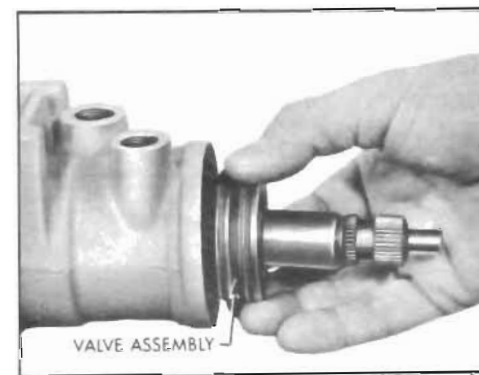
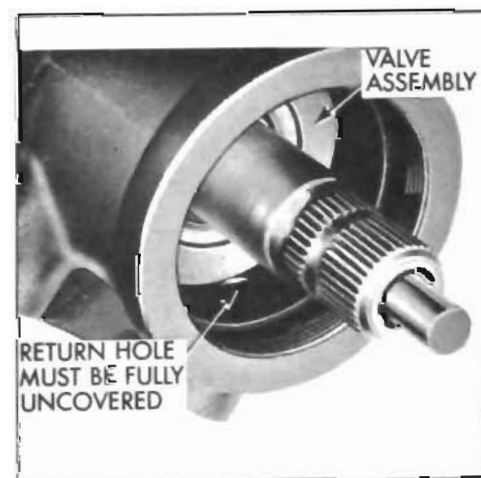

Figure 8-46—Inserting Valve Assembly in Housing
Figure 8-47—Valve Assembly Installed in Housing
1. Align the narrow pin slot on the valve body with the valve body drive pin on the worm. Insert the valve assembly into the gear housing by pressing against the valve body with the finger tips. Do not press on stub shaft or torsion bar. See Figure 8-46. The return hole in the gear housing should be fully visible when valve is assembled properly. See Figure 8-47.
2. Insert the valve assembly and worm in gear housing as an integral unit. Do not press on stub shaft or torsion bar. See Figure 8-46. Return hole in housing should be fully visible when valve and worm are properly installed. See Figure 8-47.